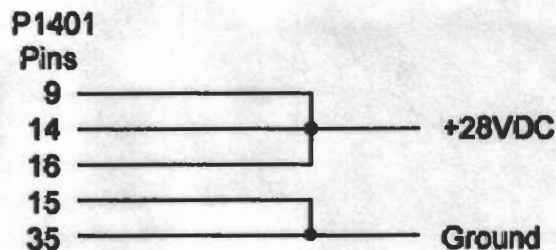

Figure 1
1. Build a test harness as shown in Figure 1 using the following parts. This test harness can be reused to program any number of KC 140 units according to this M bulletin.